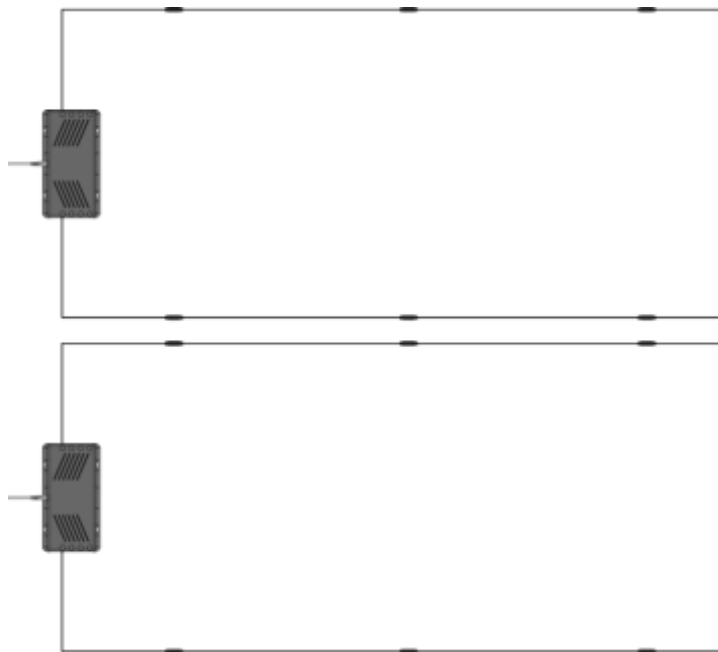

Figure 4: Two frequency-locked transmitters
- Frequency locking to allow transmitters placed in proximity to each other to operate without interference – *as shown in Figure 4*.